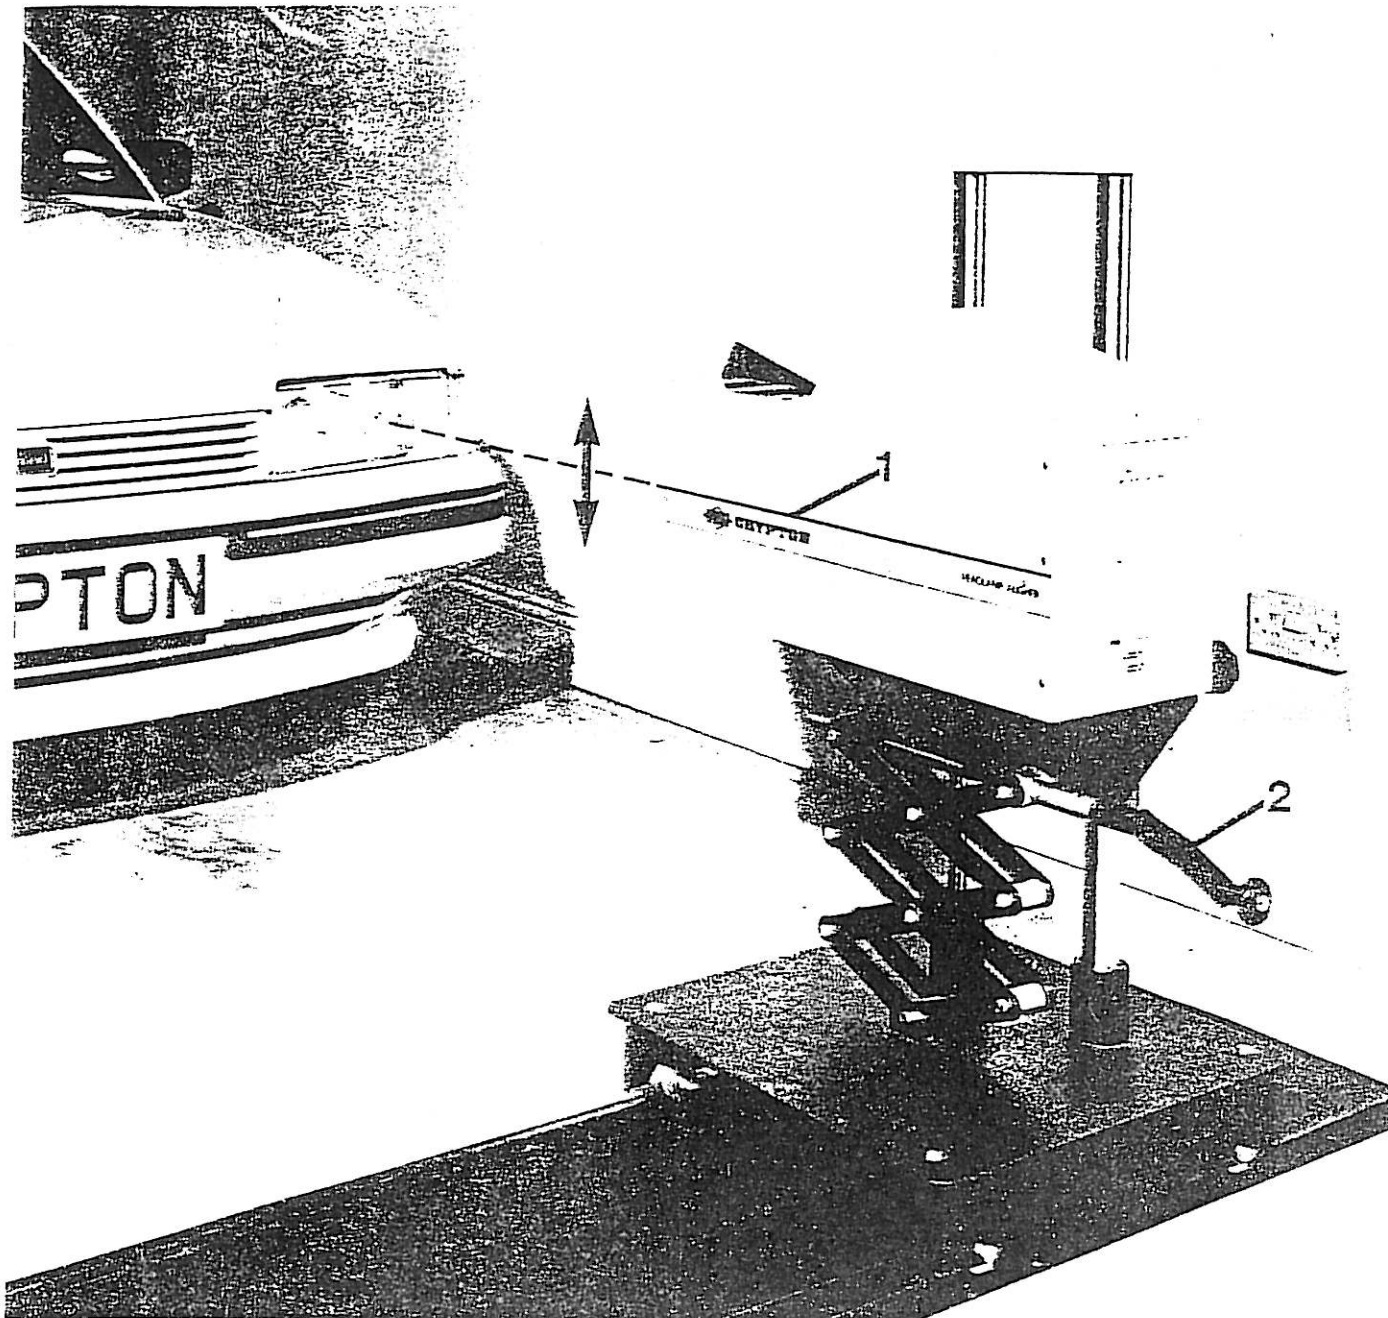

Fig. 3
- Using the height adjustment rod, set the Headlamp Aligner to the correct height from the floor. The top edge of the mark on the rod is to be aligned with the top edge of the CRYPTON nameplate (see Fig. 3). The Headlamp Aligner is now correctly set up for height and must not be moved during the rest of the test.